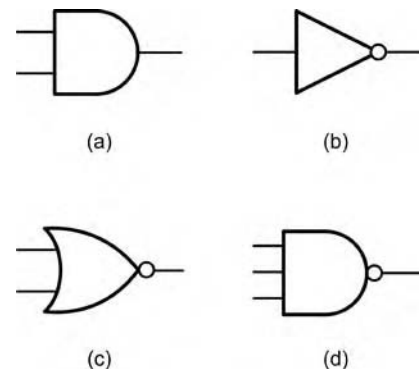

Figure 6.103
1. Identify logic gates (a)–(d) shown in Figure 6.103.